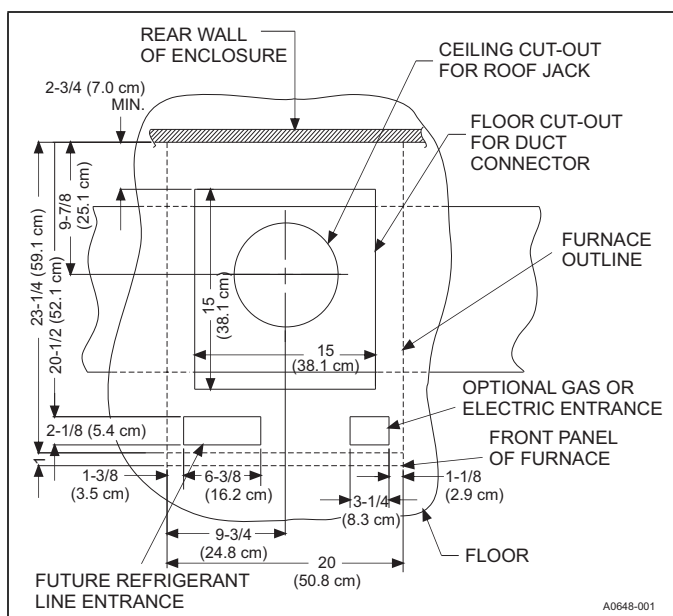

FIGURE 7: Recommended Floor Cut-Out
1. Make floor cut out as shown in Figure 7.